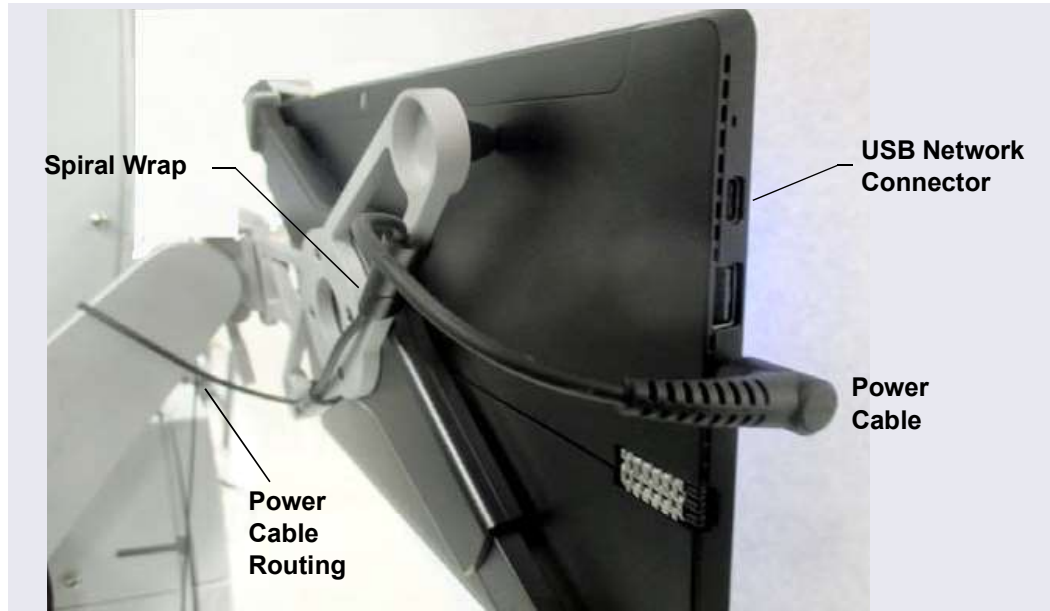

Figure 3-33. Tablet Power Cable Setup
5. Route the network connector (a USB cable that is either attached to the network adapter or part of the network adapter) as follows (see Figure 3-33):
6. Route the tablet power cable as follows (see Figure 3-33):